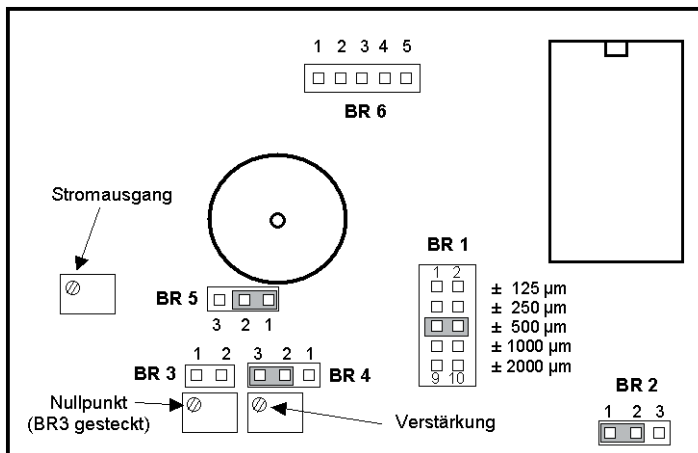

Fig. 3
Readjustment is accomplished with the potentiometer marked with "Verstärkung" (Amplification) in Fig. 3. Two calibrated gage blocks are required for readjustment.
2. Orient the 1901/TA PCB as shown in Fig. 3.
3. Use the potentiometer "Amplification (Verstärkung)" (see Fig. 3) to set the output voltage U_a to